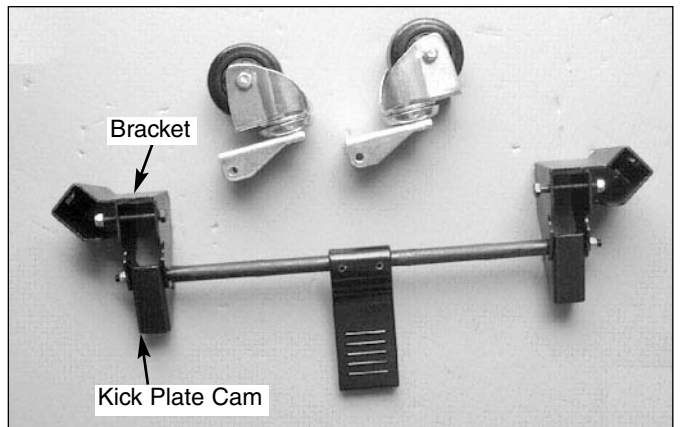

Figure 6
- Refer to Figure 6; remove casters (4) and supports (2) from carton.